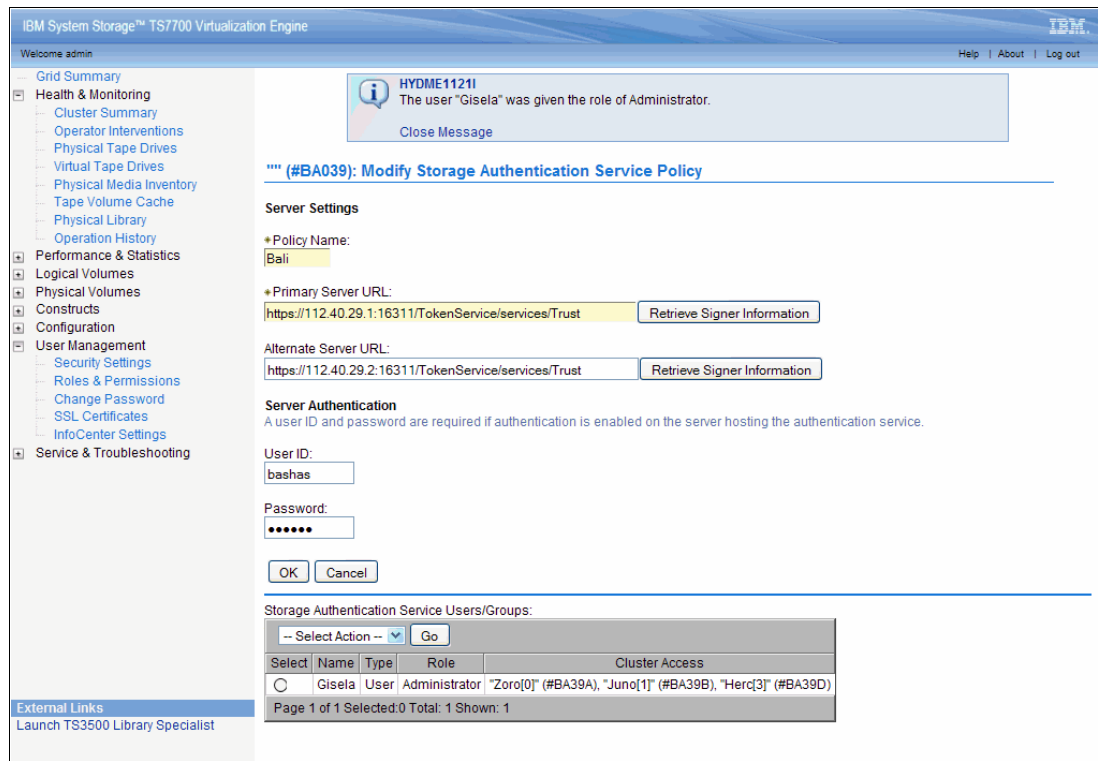

Figure 8-70 Successful Addition of Username to Storage Authentication Service Policy
8. Click **OK** after the fields are complete; a user is added to the Storage Authentication Service Policy as shown in Figure 8-70 on page 511.